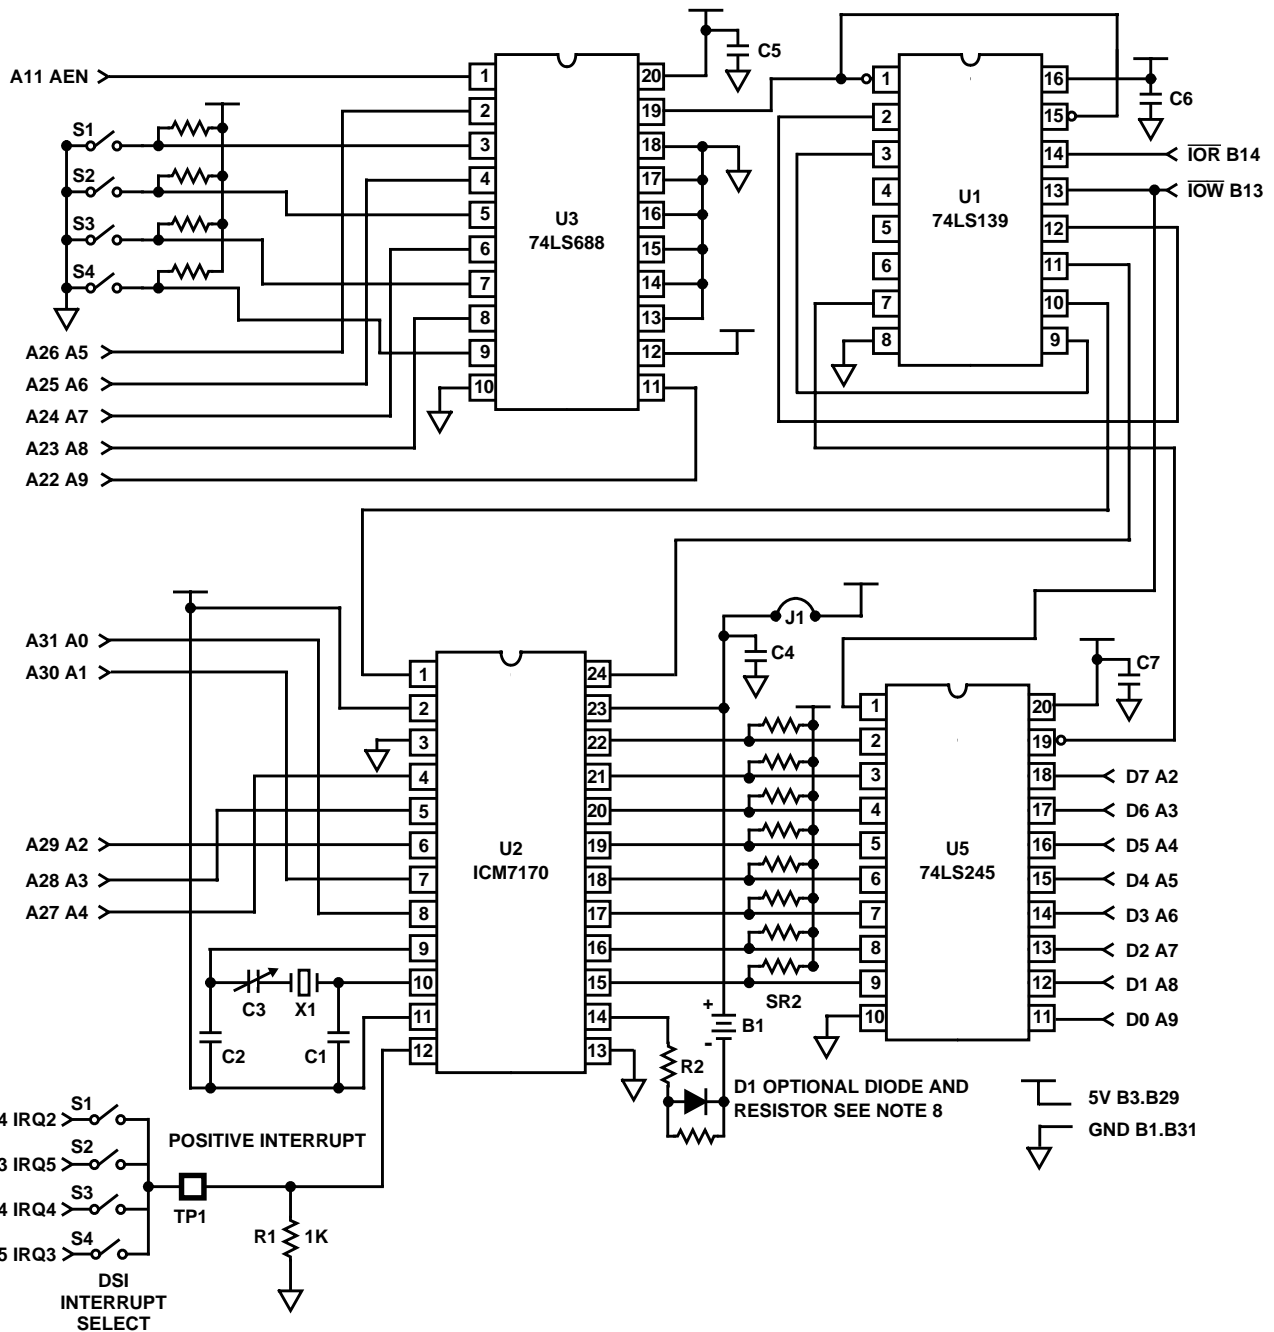

FIGURE 9. IBM PC INTERFACE FOR ICM7170Y
Figure 9 shows the schematic of a board that has been designed to plug into an IBM PC/XT (Note 1) or compatible computer. In this example  $\overline{CS}$  is permanently tied low and access to the chip is controlled by the  $\overline{RD}$  and  $\overline{WR}$  pins. These signals are generated by U1, which gates the IBM's  $\overline{IOR}$  and  $\overline{IOW}$  with a device select signal from U3, which is functioning as an I/O block address decoder. DS1 selects the interrupt priority.
8.  $V_{BACKUP}$  DIODE - Lithium batteries may explode if charged or if discharged at too high a rate. These conditions could occur if the battery was installed backwards or in the case of a gross component failure. A 1N914-type diode placed in series with the battery as shown in Figure 9 will prevent this from occurring. A resistor of 2M $\Omega$  or so should parallel the diode to keep the  $V_{BACKUP}$  terminal from drifting toward the  $V_{SS}$  terminal and shutting off ICM7170 I/O during normal operation.